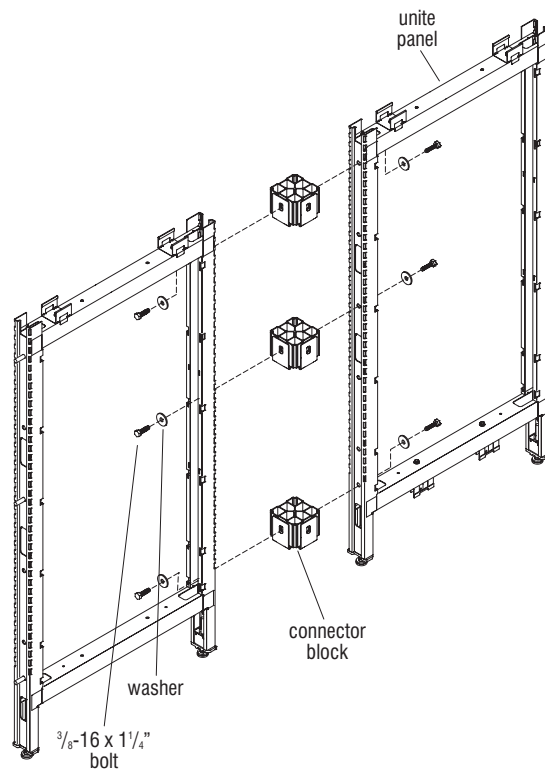

Figure 13 - In-Line 180° Intersection Connection
3. Align the second panel frame to the panel frame with installed connector blocks, and attach using  $\frac{3}{8}$ -16 x  $\frac{1}{4}$ " hex head bolt and large flat washer through the panel frame and into the panel connector blocks of the first frame. Hand-tighten hardware at this time (Figure 13).
4. Tighten all hex bolts attaching the frames, then level the frames, twisting the height-adjustable glides in or out (Figure 13).